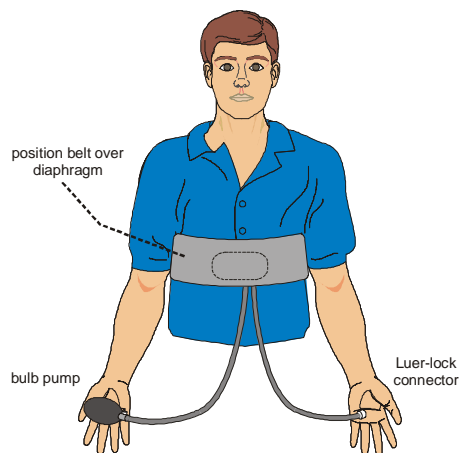

Figure 2
2. Select one member of the group as the test subject. Wrap the Respiration Monitor Belt snugly around the test subject's chest. Press the Velcro strips together at the back. Position the belt on the test subject so that the belt's air bladder is resting over the base of the rib cage and in alignment with the elbows as shown in Figure 2.